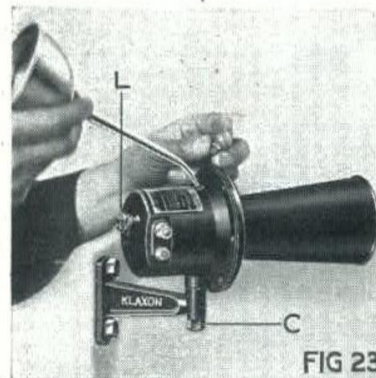

FIG 23
The **Klaxet** and **Klaxonet-H** have a bearing which requires one or two drops of thin oil monthly. See Fig. 23. The **Klaxon-H** has a ball bearing which requires no oil. Always tighten the six projector screws (see Fig. 19) before adjusting.
- (1) Slacken the clamping bolt "C" (Fig. 23), and swing the instrument into an easily accessible position.
- (2) Loosen the locknut "L," referring to Fig. 23 or 25, depending on which type is fitted to your instrument.